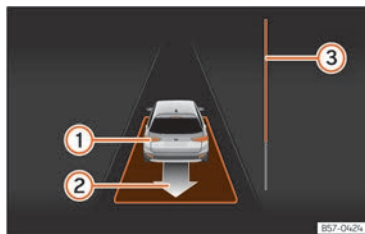

Fig. 143 On the instrument panel display: driving off from perpendicular parking.
- Reverse until the continuous ParkPilot signal sounds; **OR:** reverse until the instrument panel display shows the forward indication. The progress bar >>> Fig. 143 ③ indicates the distance to cover.